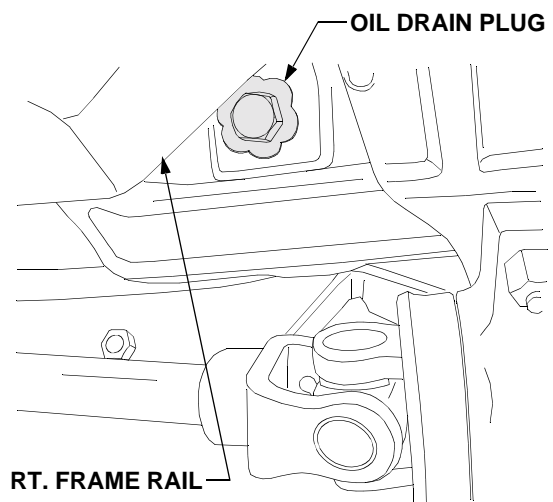

Figure 55
- Locate the engine drain plug on the *right* of the engine (See Figure 55). Place a suitable container below the drain plug to collect the old oil.
- Reinstall the drain plug in the engine and clean up any residual oil. Refer to Figure 55.